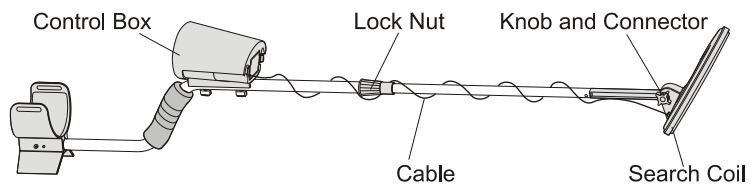
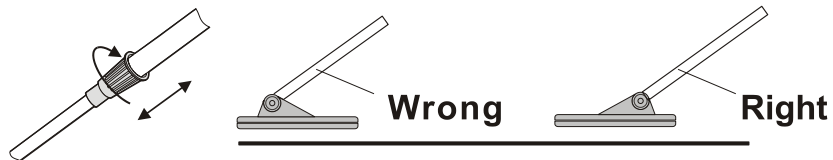

Fig1
Fig2
1. Turn clockwise to relax the end of bend-shape tube sleeve, and insert the tube which connect search coil in the sleeve. Adjusting the length, so you can stand comfortably and straighten your arms. Lock the sleeve anti-clockwise when the search coil is from the ground about 1/2 inches.(See fig.1 and fig.2)